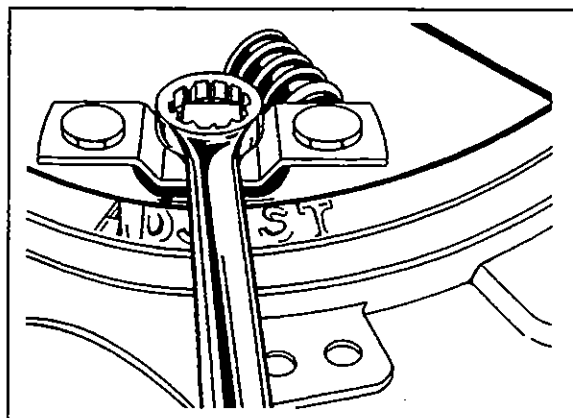

Figure 3: Square Head Bolt MA3E0224
3. If clearance is incorrect, release the clutch by depressing the clutch pedal to end of pedal travel. Insert a 3/4" socket (12 points) or a 3/4" box-end wrench through inspection hole. Depress square-head bolt to adjust clutch (Fig. 3 and 4).